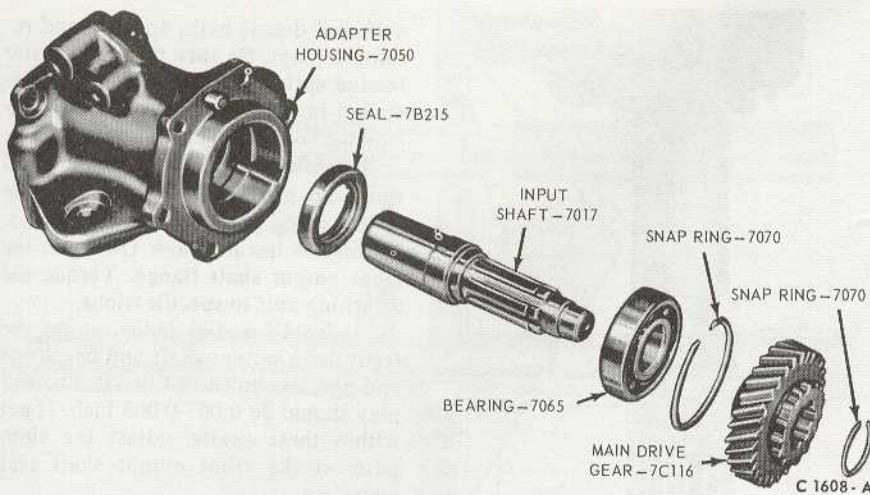

FIG. 10—Input Shaft—Disassembled
1. Remove the snap ring from the front of the shaft (Fig. 10).